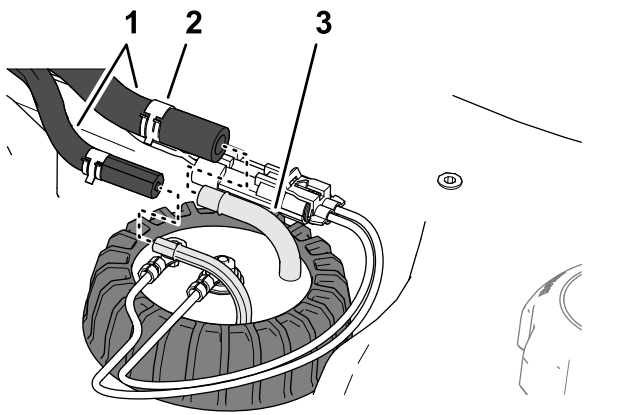

Figure 88
- 5. Assemble the hose onto the fittings of the fuel sender, and secure the hoses to the fittings with the clamps (Figure 88).